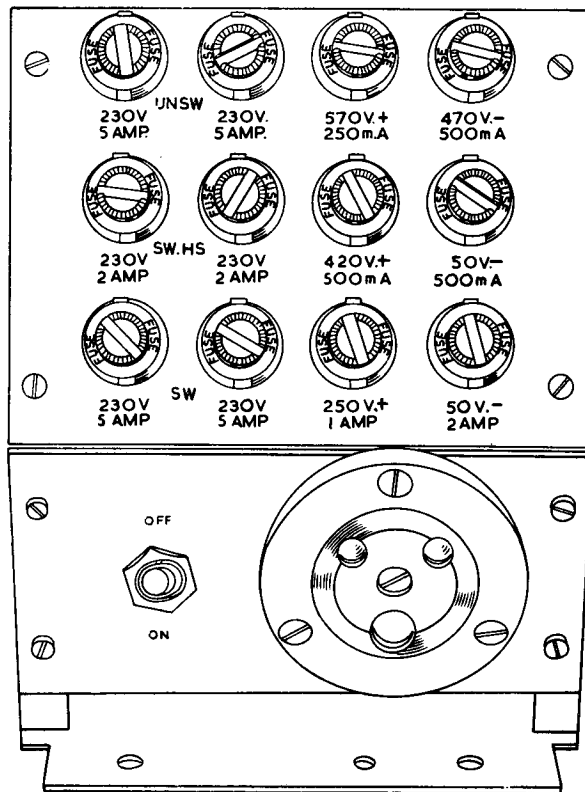

Fig. 5. Fuse layout
18. The fuse panel is a simple unit carrying cartridge fuses for all three mains inputs, all bulk power supplies, and the 50V relay lines. (There is no fuse here for the -500V reference, as each -500V outlet is separately fused in the negative reference rack.) A full list of fuse ratings and type numbers for replacement is given in Table 3; fig. 5 is a diagram of the fuse layout. The circuit diagram, which includes full details of plug and socket connections, is shown in fig. 6.